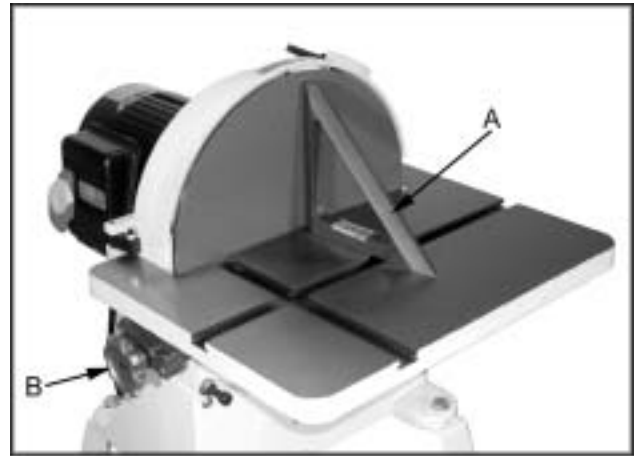

Fig. 4
1. Loosen lock knobs (B, Fig. 4) and move the table to the 90 degree position. Tighten knobs and place a square (A, Fig. 4) against the table and disc. The square should rest flat against the table and disc.